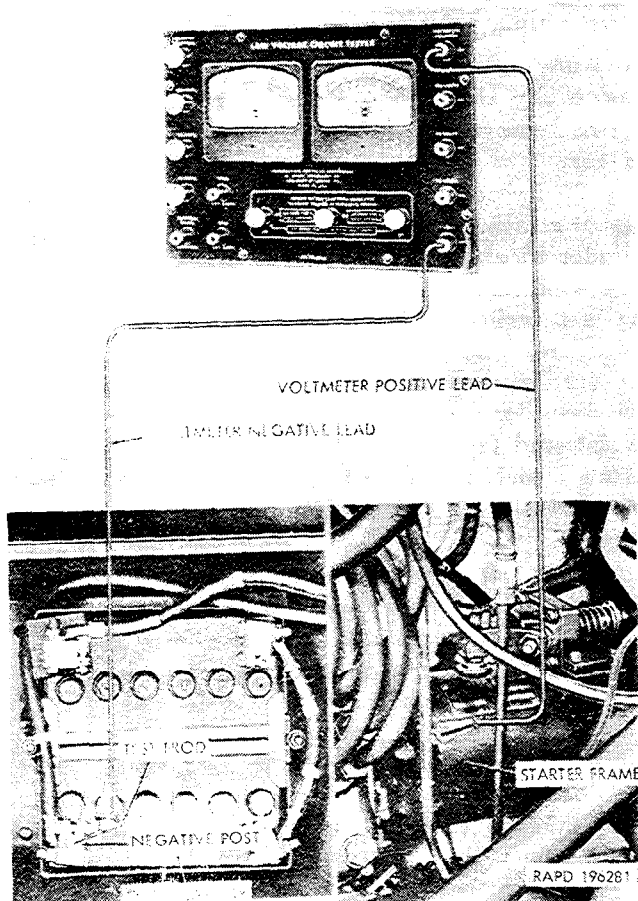

FIGURE 2-28. Checking starting system ground circuit resistance.
f. *Check Starting System Ground Circuit Resistance (Fig. 2-28).* The resistance check of the starting system ground circuit is to determine cause of malfunction of the starting system. The engine must be at normal operating temperature.